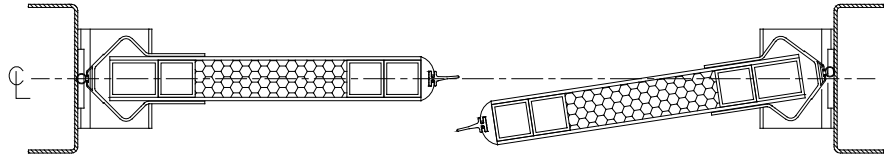

FIG. 6A
- a. **Align first panel in door opening** (Figure 6a).